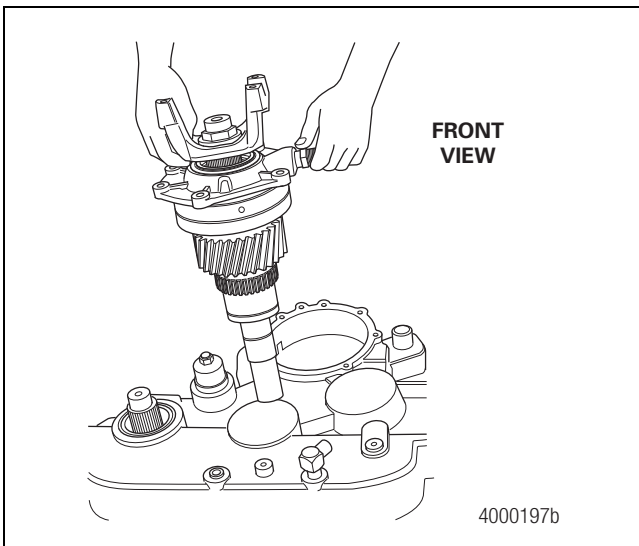

Figure 4.14
8. With the front input yoke still installed, remove the yoke, input shaft, input bearing cage and pump, if equipped, as an assembly. Figure 4.14.